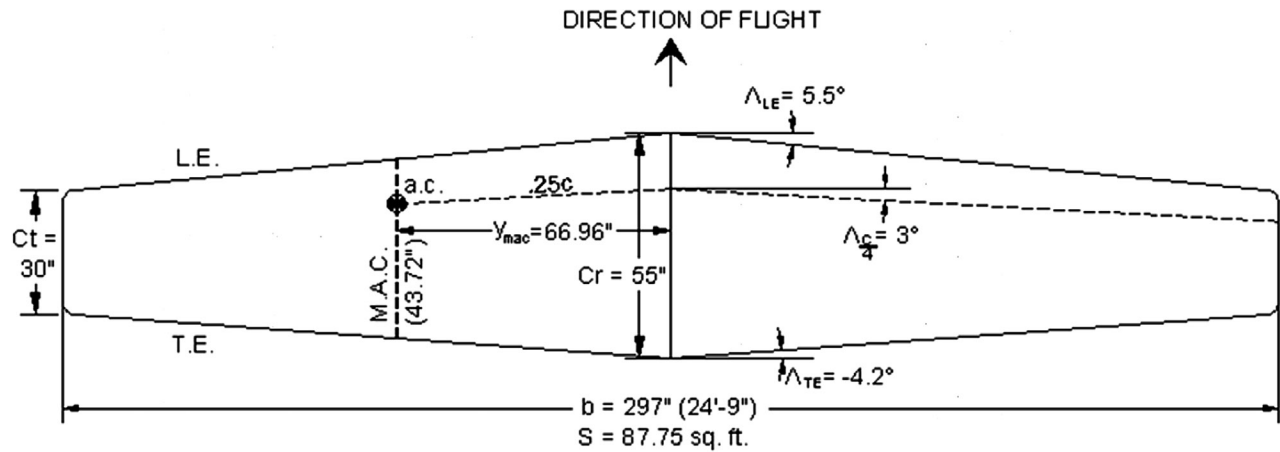

FIGURE 4 Wing specifications for a small, general aviation aircraft drawn with AutoCAD.
Fig. 4 shows a typical design of a small general aviation (GA) aircraft wing, with overall dimensions and specs.